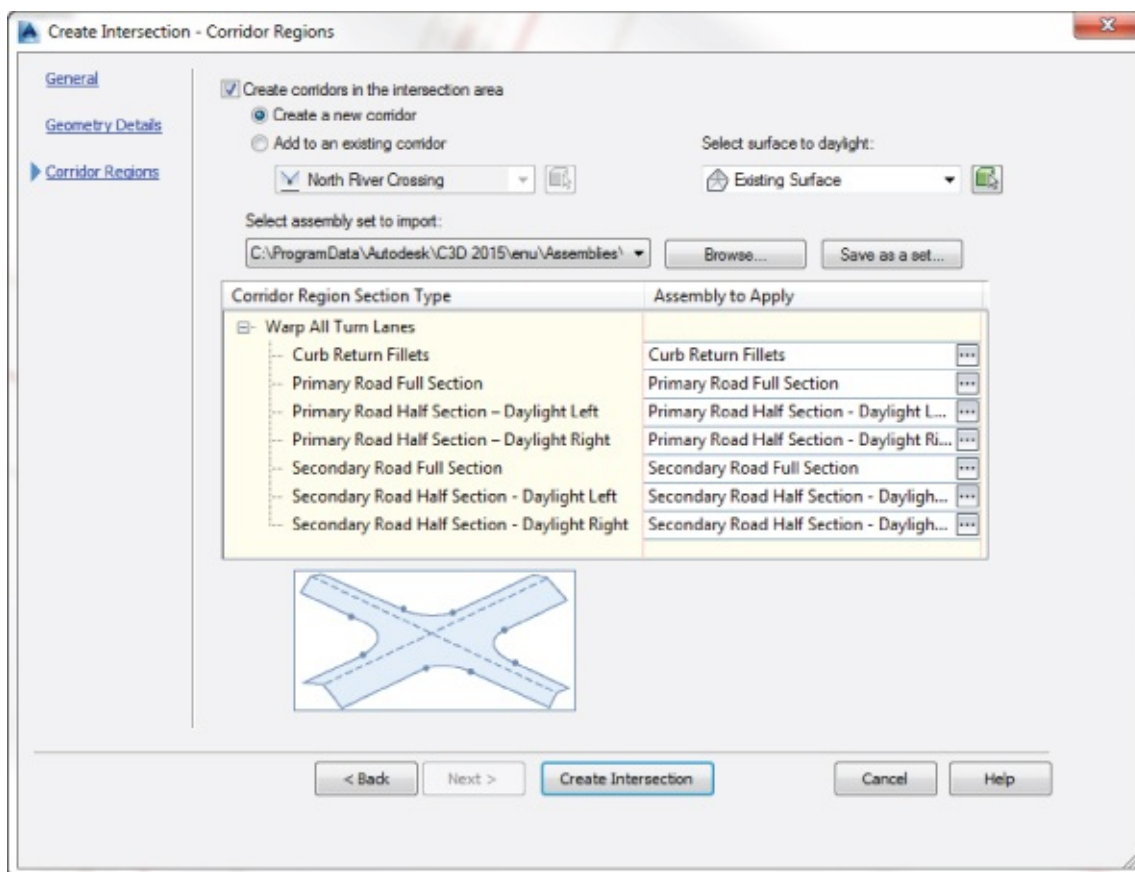

Figure 10.26 The Corridor Regions page of the Create Intersection Wizard drives the assemblies used in the intersection.
9. Click Next to continue to the Corridor Regions page of the Create Intersection Wizard (Figure 10.26).
The Corridor Regions page is where you control which assemblies are used for the different design locations around the intersection. Clicking each entry in the Corridor Region Section Type list will give you a preview of what each assembly type should look like and where in the intersection it's applied (as shown at the bottom of Figure 10.26). If your assemblies have the same names as the default assemblies, they will be pulled from the current drawing. Alternatively, you can click the ellipsis to select any assembly from the drawing, which is what you will be doing in this example.